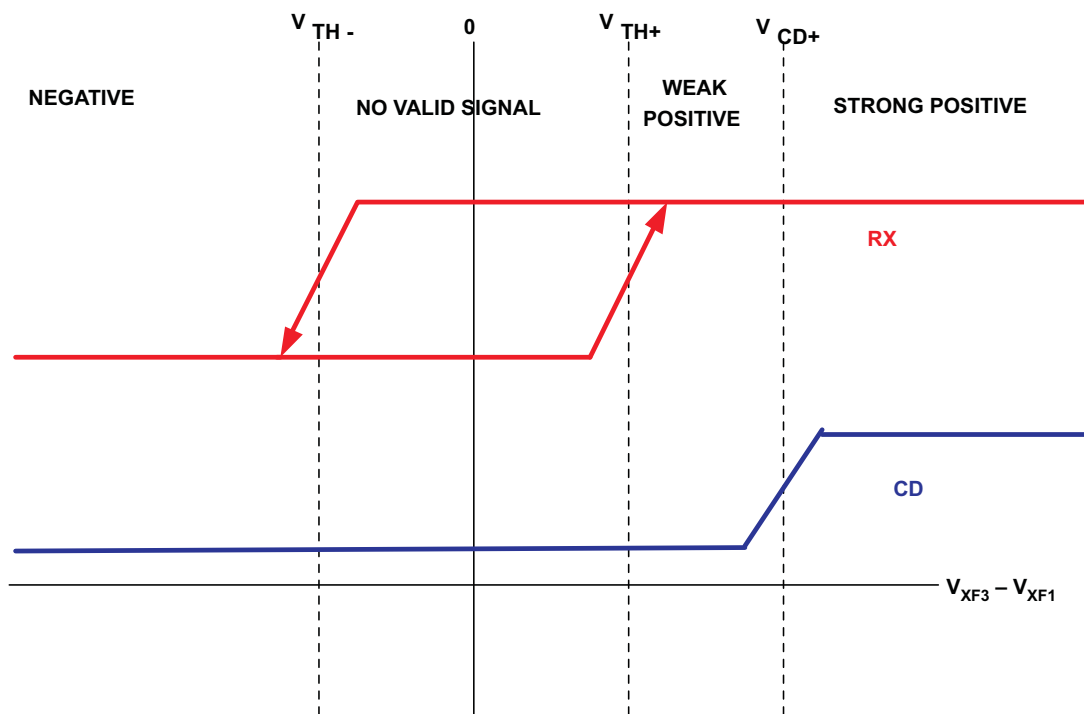

Figure 14. RX and CD Functions
The function of the primary receiver (RX) and the carrier detect (CD) depends on the signals XF1 and XF3. The purpose of RX is to indicate the status of the two ControlNet bus lines, based on the signals XF1 and XF3. If the voltage at XF3 is greater than the voltage at XF1, then the bus state is positive, and RX should output a HIGH voltage. This corresponds to a Phy\_1 symbol. If the voltage at XF3 is less than the voltage at XF1, then the bus state is negative, and RX should output a LOW voltage. This corresponds to a Phy\_0 symbol. See Figure 14. Note that the allowable variation in  $V_{TH-}$ ,  $V_{TH+}$ , and  $V_{CD}$  is specified in the ELECTRICAL CHARACTERISTICS table.